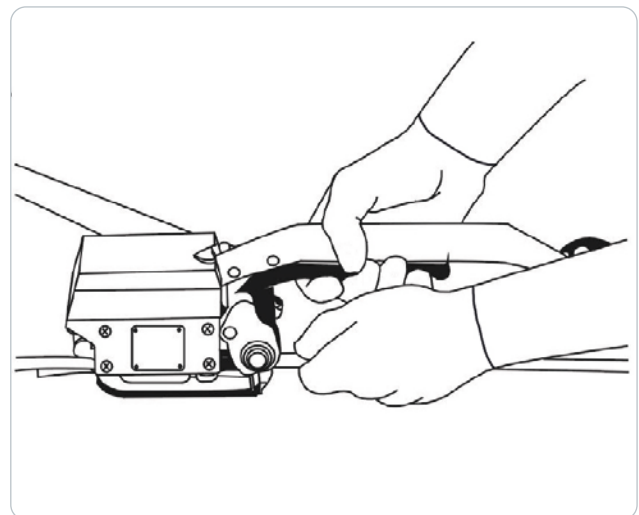

Figure 2
2. The rocker is operated with the right hand. The left hand guides the two superimposed steel strap ends into the device as far as they will go, as shown in Figure 2.